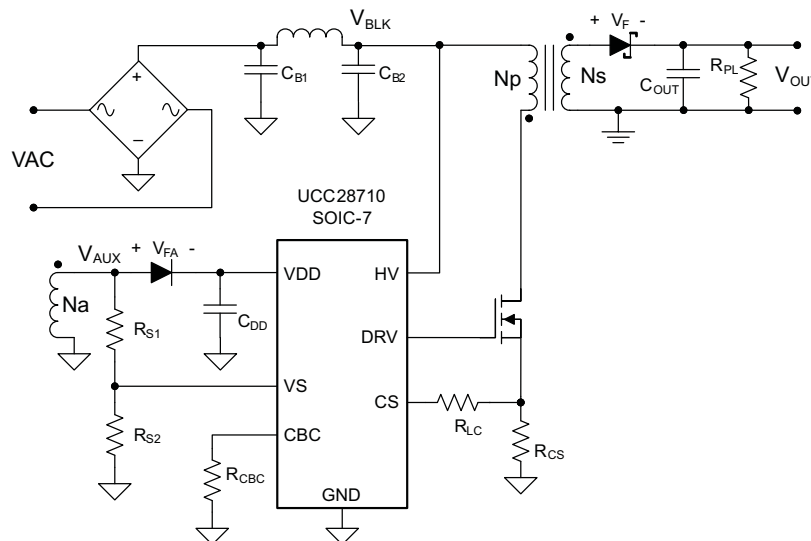

Figure 20. Design Procedure Application Example
The UCC2871x family of flyback power supply controllers provides constant voltage (CV) and constant current (CC) output regulation to help meet USB-compliant adaptors and charger requirements. These devices use the information obtained from auxiliary winding sensing (VS) to control the output voltage and do not require optocoupler/TL431 feedback circuitry. Eliminating the optocoupler feedback reduces component count and makes the design more cost effective. Refer to Figure 20 for details.
The procedure in the Detailed Design Procedure section outlines the steps to design a constant-voltage, constant-current flyback converter using the UCC2871x family of controllers. Refer to the typical application schematic for component location (Figure 20) and the 器件命名规则 section for variable definitions.